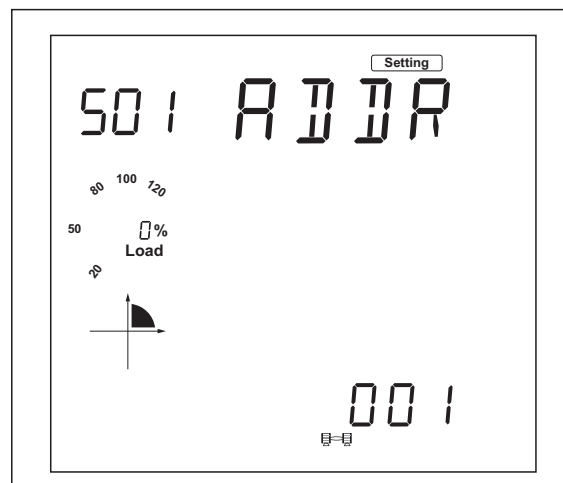

Figure 7: S01: Communication address screen
2. The screen displays parameter S01: Communication Address (ADDR 001), meaning the meter address is 001. Keep this setting as 001. See Figure 7.